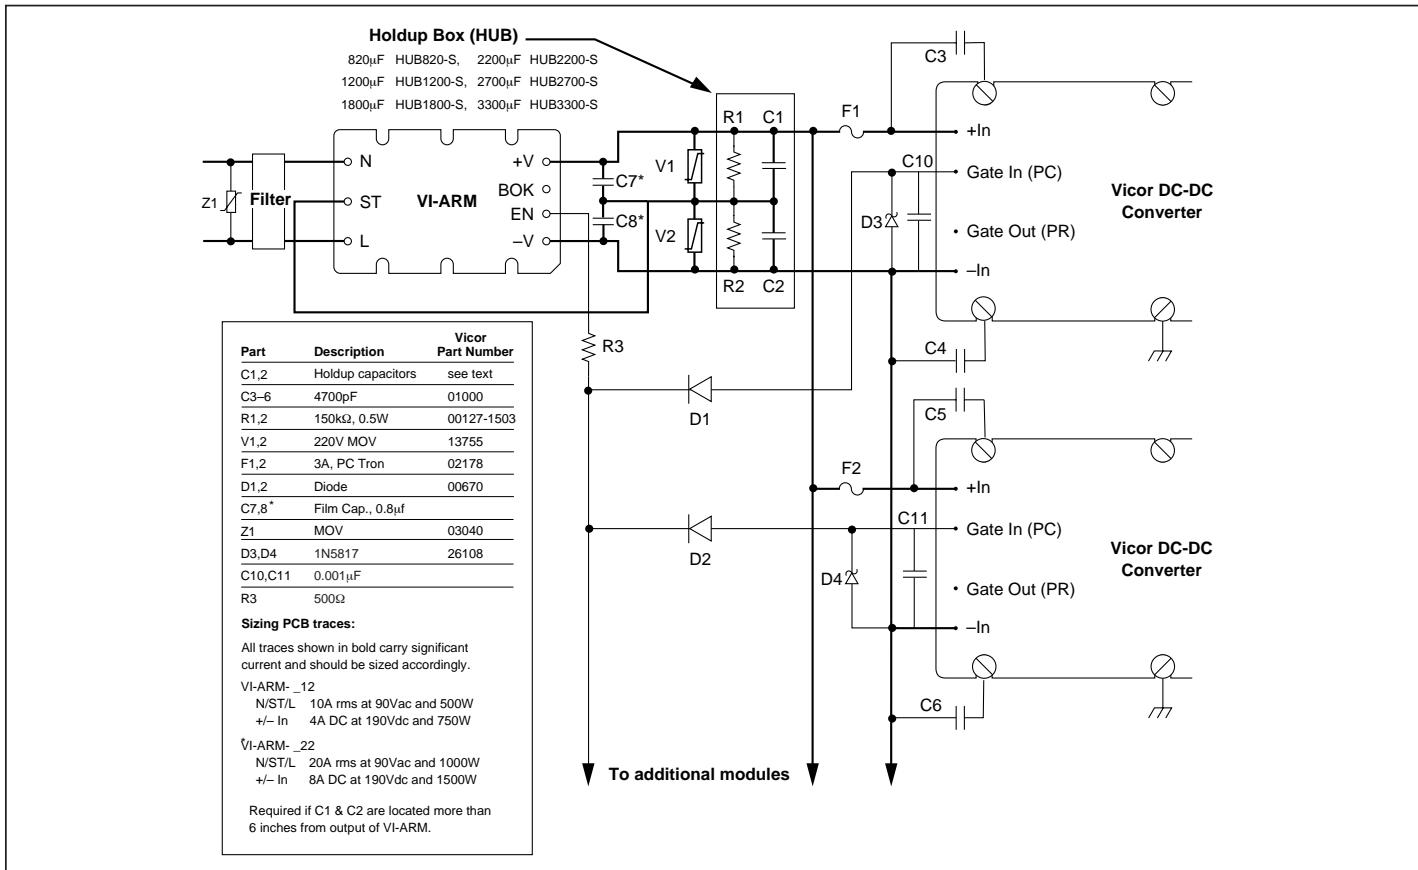

Figure 8—Converter connections
Strap (ST) Pin. In addition to input and output power pin connections, it is necessary to connect the Strap pin to the junction of the series holdup capacitors ($C1, C2$, Fig. 8) for proper (autoranging) operation. Gas tubes across the capacitors provide input transient protection. The bleeder resistors ($R1, R2$, Fig. 8) discharge the holdup capacitors when power is switched off.
It should be noted that the series combination ($C1, C2$, Fig. 8) requires each capacitor to be twice the calculated value, but the required voltage rating is reduced to 200V.